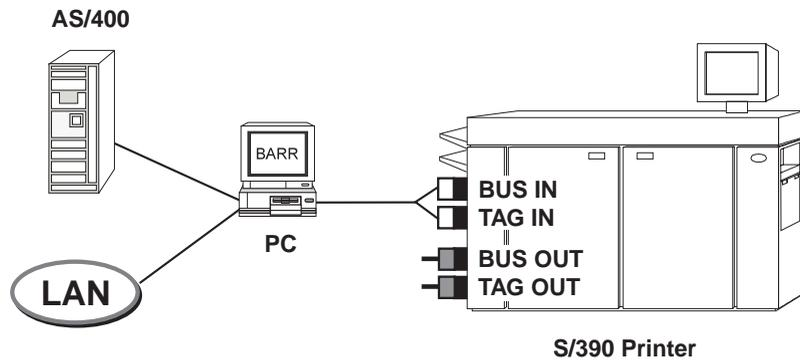

Figure 1-7. BARR/AFP routes data from the AS/400 and the LAN to S/390 channel printers.
- BARR/AFP connects your printers to AS/400 systems and the LAN (see Figure 1-7).